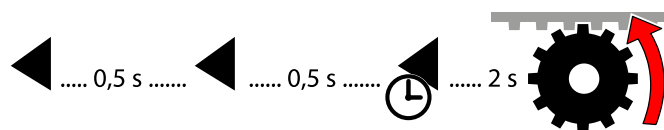

Fig. 99: Limit position setting – setting the left limit position
3. Press the following key combination to save the left limit position (see Fig. 99).